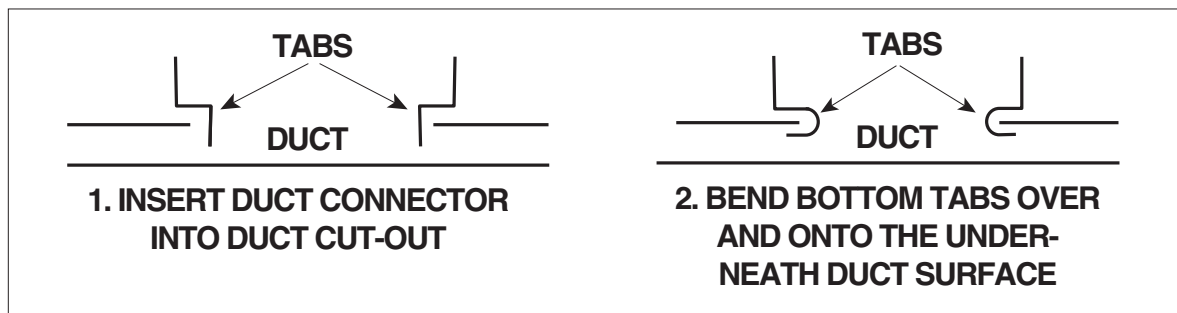

Figure 10. Duct Connector Installation B
5. Secure connector to duct by bending bottom tabs under and up against duct surfaces (see Figure 10).